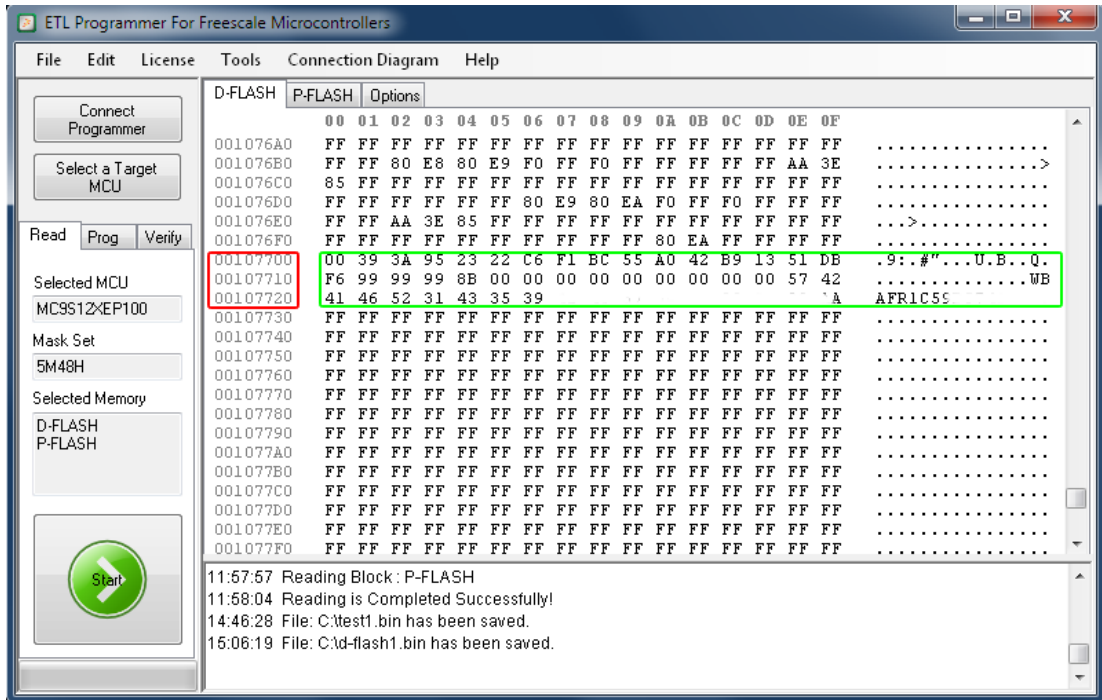

Figure 31 Program new Data-FLASH
- Make sure the new file loaded successfully. Select 'Prog' tab and press the 'Start' button (Figure 31). Shortly, D-FLASH programming will be completed.